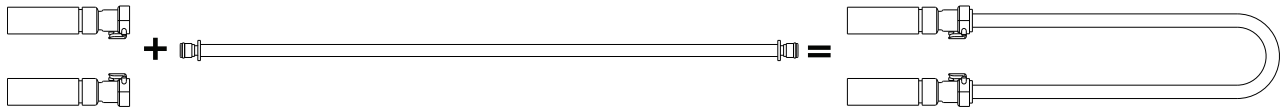

Figure 1-26: Colder style connector hose connected to a tool adapter hose
- If you have **Colder** style connector hoses, attach the service tool adapter hose (8001-999-017) (Figure 1-26 on page 1-41). Complete this for all three hoses.